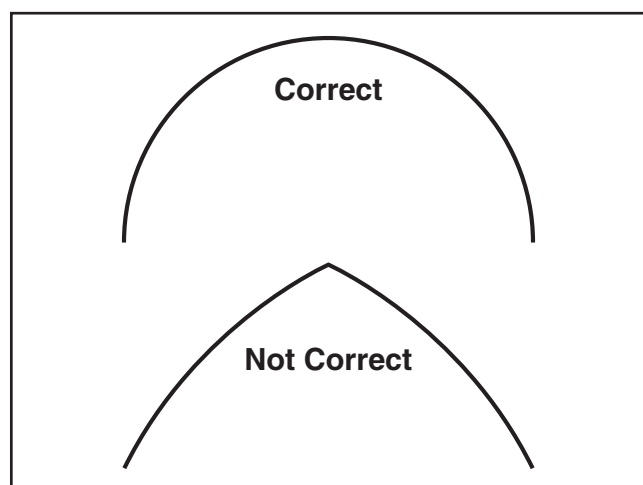

Figure 39. Correct blade weld bend for strength and flexibility.
18. Test the strength and flexibility of the weld by bending the blade in an arc similar to that of the bandsaw wheels. The blade should bend smoothly without any angles (see **Figure 39**).